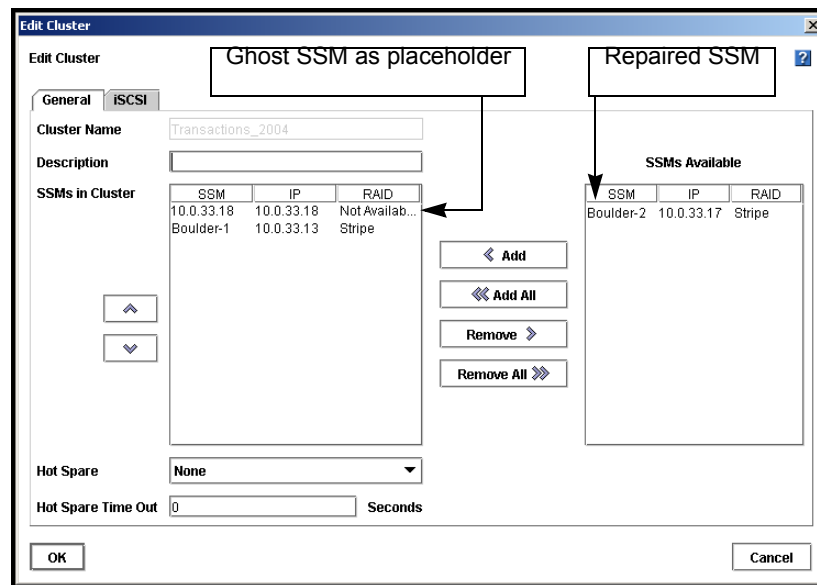

Figure 168. Returning the Repaired Storage Module to the Cluster
8. In the Edit Cluster window, shown in Figure 168, remove any storage modules in the list that are **below** the ghost storage module.